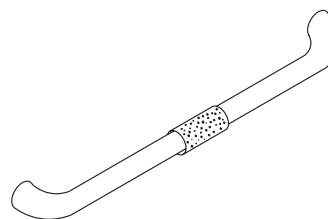

Figure 31
8. Install foam grip on lid handle. **See Figure 31.**